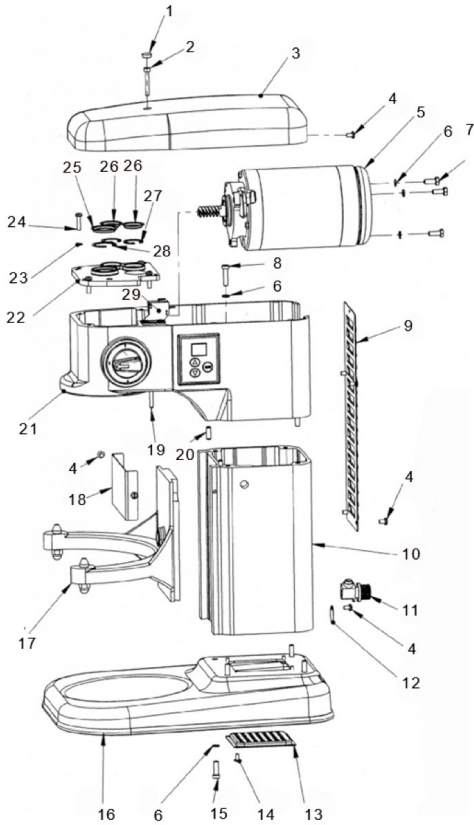

Figure 1: Main body of the machine
- Main body of the machine (Figure 1);
## Machine part list of Figure 1